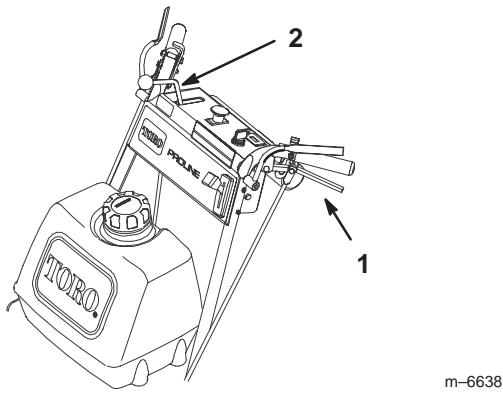

Figure 14
- Slowly release the drive levers to move forward (Fig. 14).
To go straight, release drive levers equally (Fig. 14).
To turn, squeeze the drive lever on the side and direction you want to turn (Fig. 14).
- Slowly squeeze the drive levers back to the grips together to move rearward (Fig. 14).